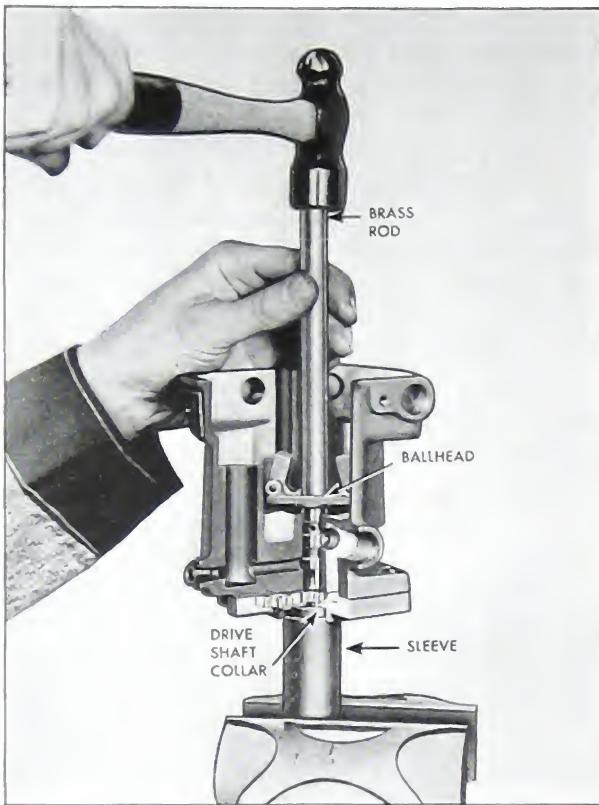

Fig. 5-128. Driving collar on drive shaft
8. Clamp sleeve in vise, place ballhead in governor, place drive shaft collar on drive shaft, and drive collar onto drive shaft with $7/16"$ brass rod as shown in Fig. 5-128.